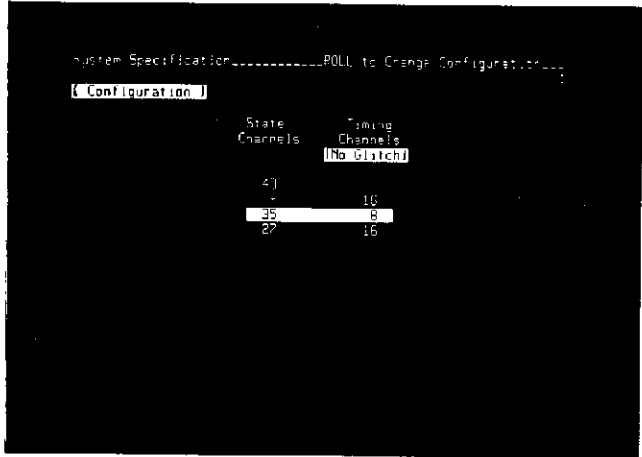

Figure 3-27. Combined State/Timing Analyzer System Configuration
2. Press the ROLL-down-arrow key to select the combined state and timing system specification shown in figure 3-27